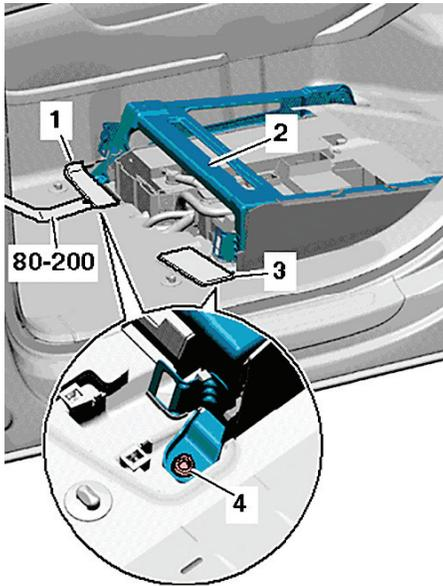

Fig. 4 Seat console removal
9. Pry covers (1, 3) out of floor covering using a suitable trim tool, **Fig. 4**.
10. Remove both front screws (4) on driver's seat console and tip up console (2), **Fig. 4**.